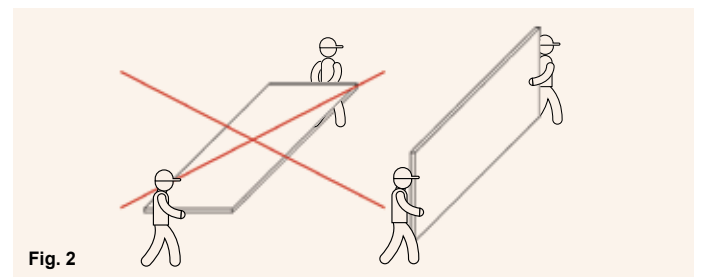

Fig. 2
**VMG Lignum Board | Floor T&G4** should be carried by hand in a vertical position, not horizontal, in order to avoid breaking (Fig. 2).